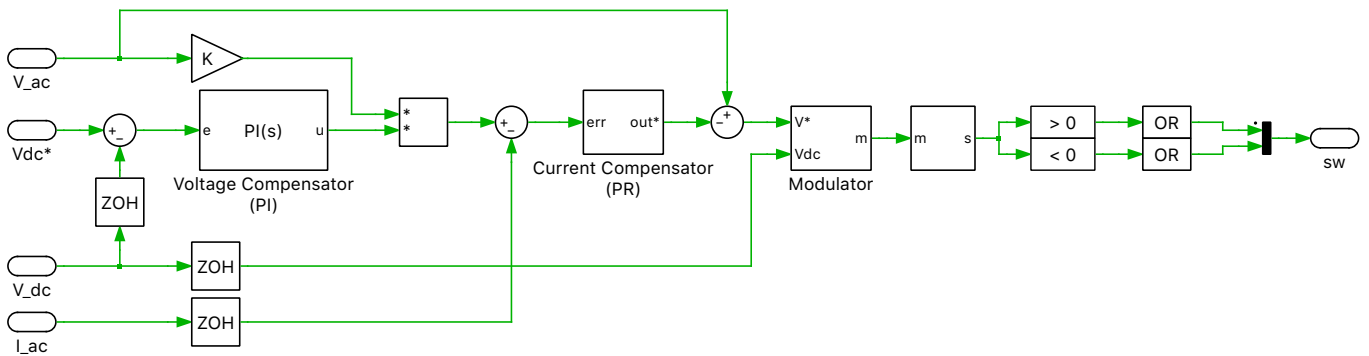

Figure 4: Totem-Pole Bridgeless Boost PFC Converter Controls
As Fig. 4 above depicts, the control scheme is composed of two loops - an outer voltage loop and an inner current loop. The error signal obtained by comparing the measured output voltage (DC) against a voltage setpoint is given to the outer loop proportional-integral (PI) controller for voltage compensation. The voltage loop output is multiplied by the input voltage signal (AC) to generate the current reference. The inner loop proportional-resonant (PR) controller [3] controls the input current to follow the current